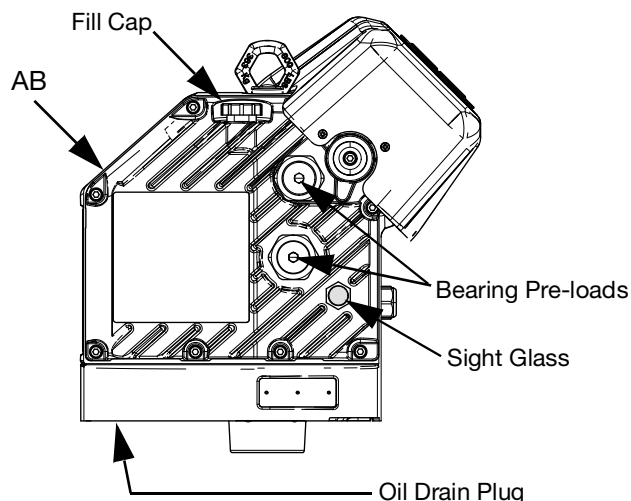

FIG. 40: Sight Glass and Oil Fill Cap
3. Remove the oil drain plug. See FIG. 40 for the location of the drain plug. Allow all oil to drain from the Driver (AB).
See FIG. 40 below. Check the oil level in the sight glass on a regular basis. The oil level should be near the half-way point of the sight glass when the Driver (AB) is not running. If the oil is low, open the fill cap and add Graco Part No. 16W645 ISO 220 silicone-free synthetic EP gear oil.